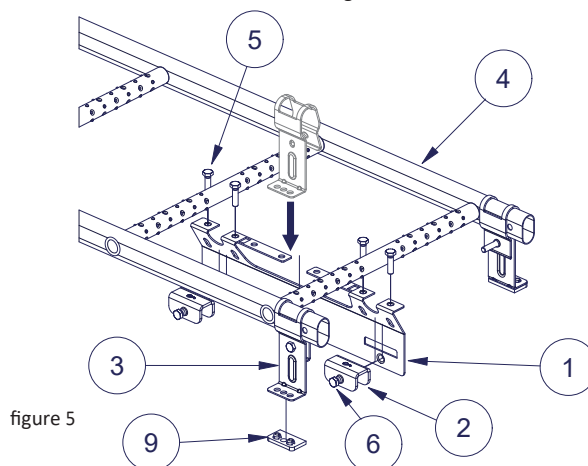

figure 5
- Place the EPDM Rubber sealants at the base of the roof ladder fasteners (figure 5).
- Attach the roof ladder fasteners with one M8x30 hexagon bolt to the ladder frame (figure 5).
- Attach the central fastener to the rungs with four M8x30 hexagon bolts (figure 5).